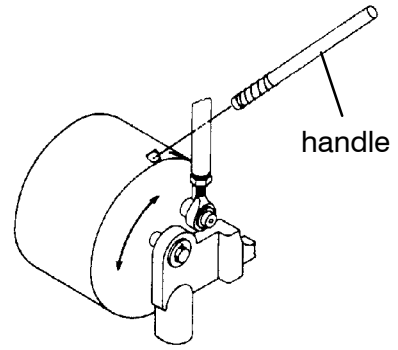

Figure 1-4
*3000 and 4000 amp. F-design* See Figure 1-4.